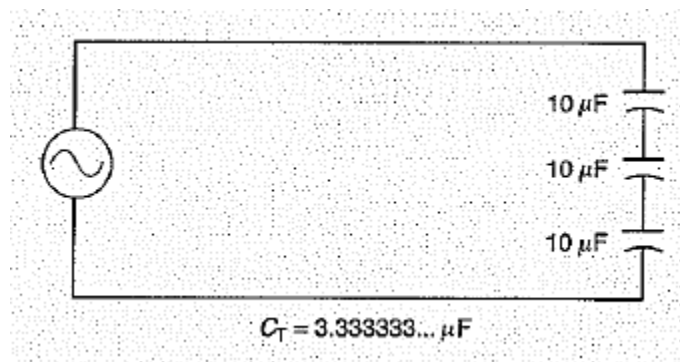

Figure 4.4: Capacitors in Series
- 4-44 For example, Figure 4.4 is a diagram of a circuit with three  $10\ \mu\text{F}$  capacitors connected in series. The potential difference across the combination is divided into three equal parts. The charge on each capacitor is therefore only one third as high as it would be on one capacitor if it were connected into the circuit alone.
4-47 In the example shown in Fig. 4-4, the total capacitance in the circuit is calculated in the following way: